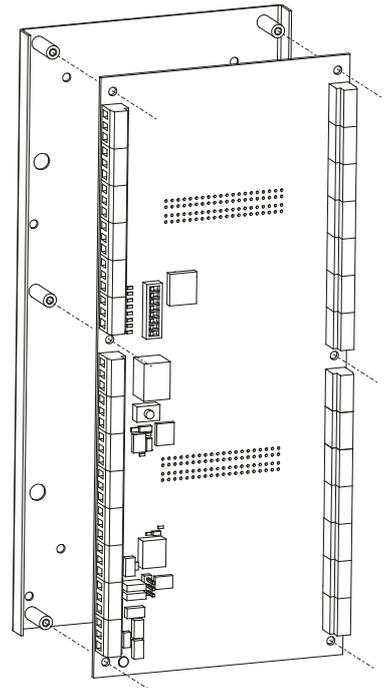

Fig.4 Installation of PCB
- Install PCB board on the metal board (refer to Fig. 4).